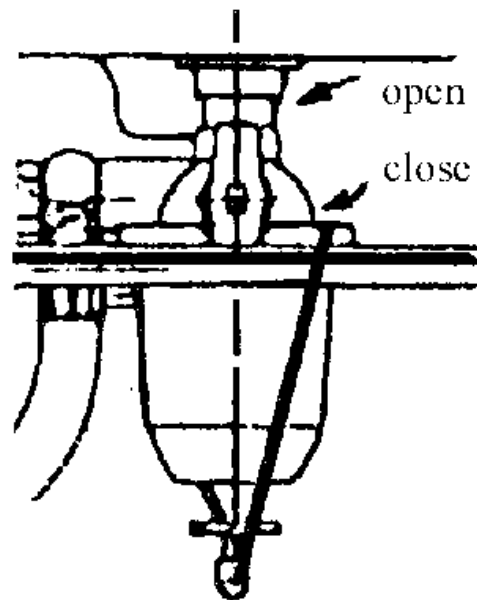

Fig.4-7
(3)Unscrew the switch of the sediment cup. (Fig 4-7)
- g. Take the key out of the preheating switch.(Fig.4-7 and 4-1)